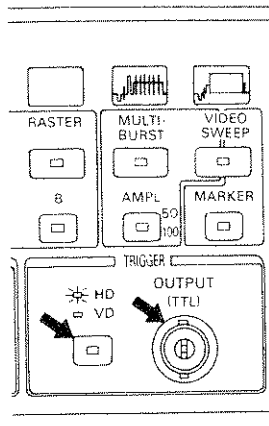

Figure 4.21
4.6.3 Trigger Output Selection (See Figure 4.21)